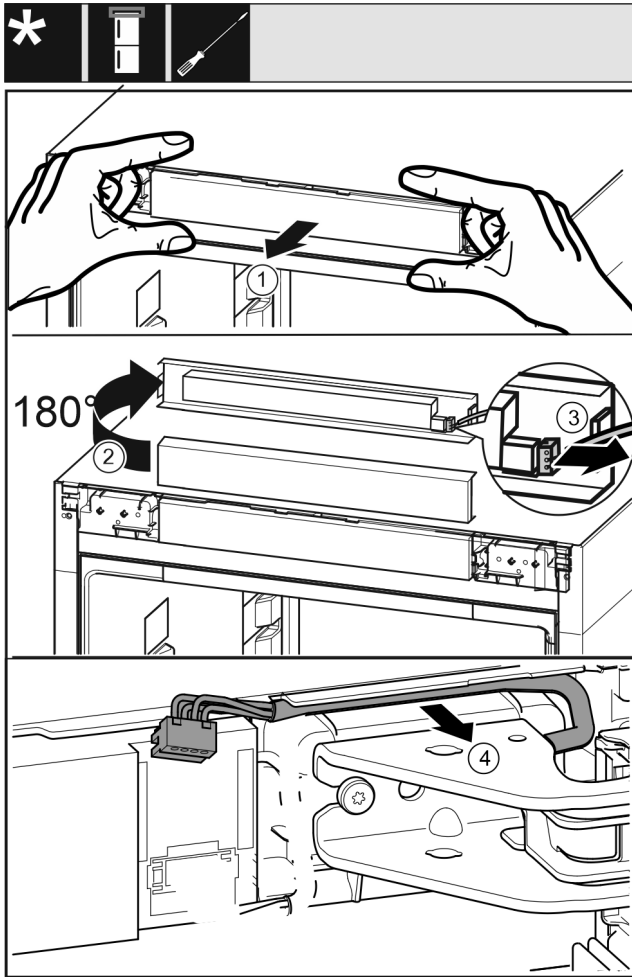

Fig. 17
- ▶ Loosen the control panel of the appliance carefully to the front. *Fig. 17 (1)*
- ▶ Turn the control panel up by 180°. *Fig. 17 (2)*
- ▶ Press the latching lug backward and pull out the plug carefully. *Fig. 17 (3)*
- ▶ Carefully remove the cable over the bearing bracket from the guide. *Fig. 17 (4)*